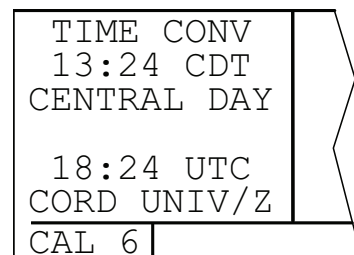

Figure 3D-101. CAL 6 Page
f. **The Calculator 6 Page.** The CAL 6 page is used to convert any time in one time zone to the corresponding time in another time zone. Refer to Figure 3D-101.